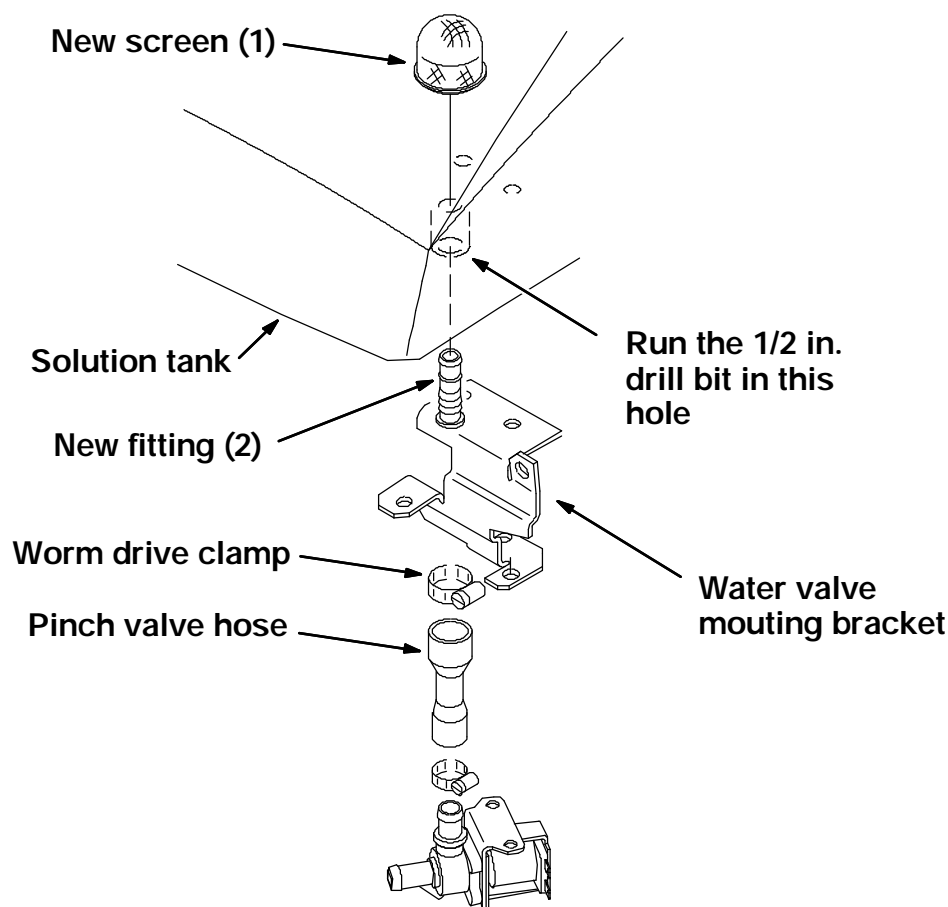

FIG. 1 - Solution Line Screen
(Refer to FIG. 1)
3. Reach inside the tank and remove the old solution line screen from the left front corner of the tank. (Refer to Fig. 1)
4. Go under the solution tank and loosen the worm drive clamp holding the pinch valve hose to the tank nipple. Pull the pinch valve hose off the tank nipple. (Refer to Fig. 1)
5. Remove the two hex screws holding the water valve mounting bracket to the tank. Let the valve drop down, out of the way. (Refer to Fig. 1)
6. Use the hand drill and 1/2 in. drill bit in the hole in the tank nipple. Drill the hole out to the 1/2 in. dimension. (Refer to Fig. 1)
7. Position the plastic fitting (2) in the solution line hole from the bottom up. (Refer to Fig. 1)
8. Position the pinch valve hose back on the tank nipple. Reinstall the worm drive clamp and tighten. (Refer to Fig. 1)
9. Reinstall the water valve mounting bracket to the bottom of the tank. (Refer to Fig. 1)
10. Reach inside the solution tank and position the new screen (1) on the fitting (2) that was just installed. (Refer to Fig. 1)